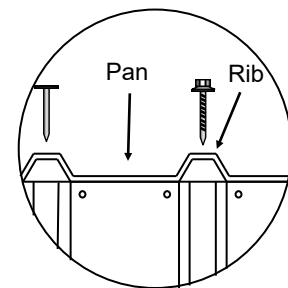

fig.2
- Using 4 x 50mm Clouts, predrill and nail the Roof Sheets to the Top Plates through the ribs, at each corner, ensuring ribs on the Roof Sheets line up with ribs on the Wall Sheets (**fig.2**).